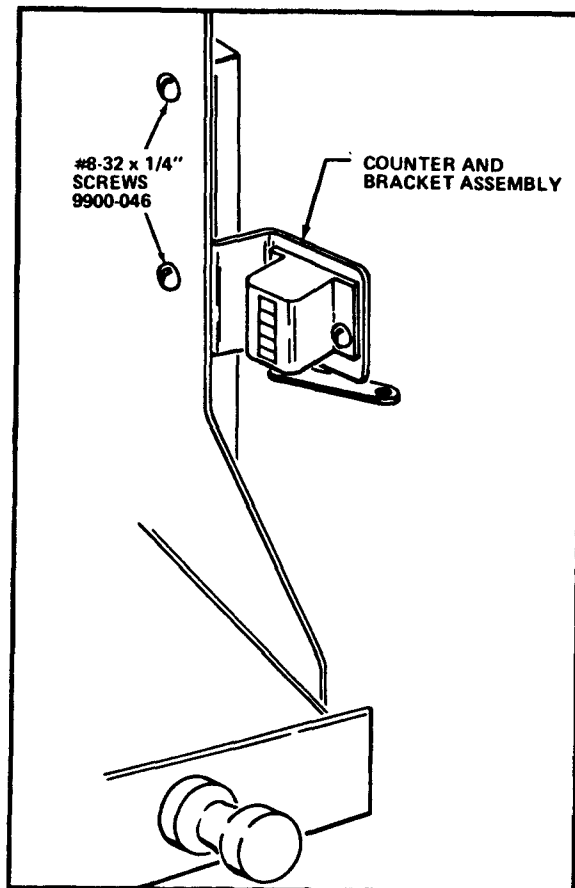

Figure 1
3. Place the Counter And Bracket Assembly on the Merchandiser Right Sidewall. See Figure 1.